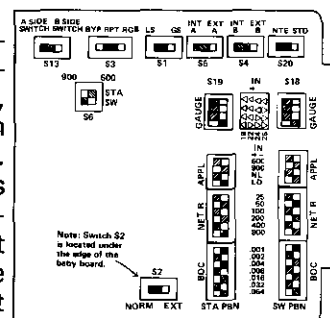

figure 3. 7213 option switch locations
3.06 The 7213's printed circuit board contains 16 option switches, the locations of which are shown in figure 3. Eight of these switches (one of which is a two-position DIP switch that controls two separate options) must be set before the module is